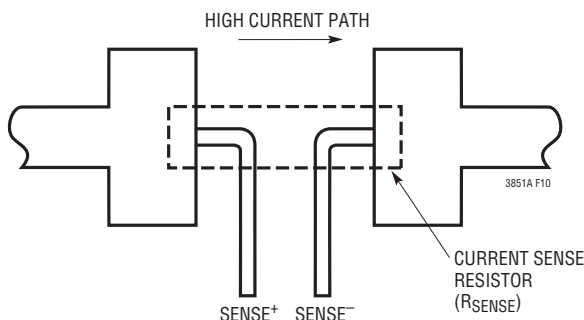

Figure 10. Kelvin Sensing  $R_{SENSE}$
- Are the  $SENSE^-$  and  $SENSE^+$  leads routed together with minimum PC trace spacing? The filter capacitor between  $SENSE^+$  and  $SENSE^-$  should be as close as possible to the LTC3851A. Ensure accurate current sensing with Kelvin connections as shown in Figure 10. Series resistance can be added to the  $SENSE$  lines to increase noise rejection and to compensate for the ESL of  $R_{SENSE}$ .
- Keep the switching node (SW), top gate node (TG) and boost node (BOOST) away from sensitive small-signal nodes, especially from the voltage and current sensing feedback pins. All of these nodes have very large and fast moving signals and therefore should be kept on the *output side* (Pin 9 to Pin 16) of the LTC3851AEGN and occupy minimum PC trace area.